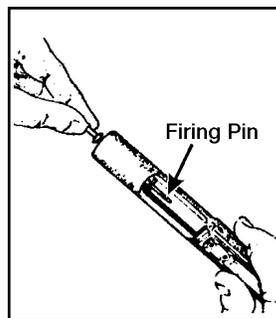

Figure 071-311-2025-29. Placing the firing pin
- g. Put the firing pin retaining pin in the bolt carrier to seat it (figure 071-311-2025-30).